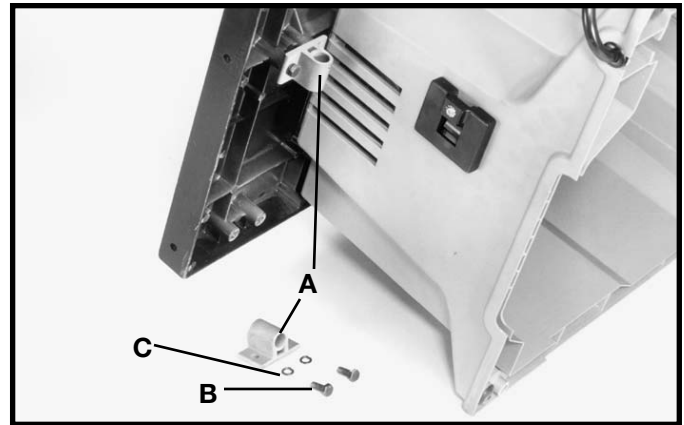

Fig. 31
1. Loosely fasten brackets (A) Fig. 31, to the bottom left side of the saw table as shown, using two M6x15mm hex head screws (B) and M6.1 lockwashers (C). Assemble two remaining brackets to the bottom right side of saw table in the same manner.